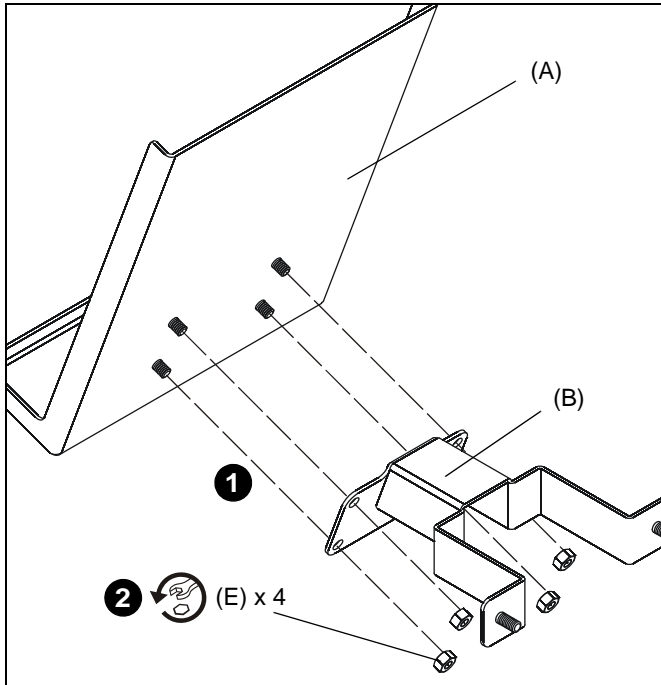

Figure 1
1. Place shelf column mount (B) over bolts on back of literature tray (A). (See Figure 1)
2. Install four 3/8" hex nuts (E) to bolts on back of literature tray (A) to secure shelf column mount (B) to tray. (See Figure 1)